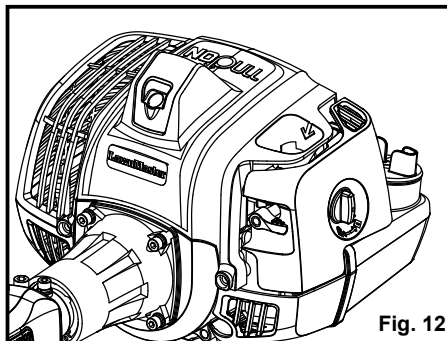

Fig. 12
- Remove the 4 screws to remove the transmission yoke (Fig. 12 & 13).